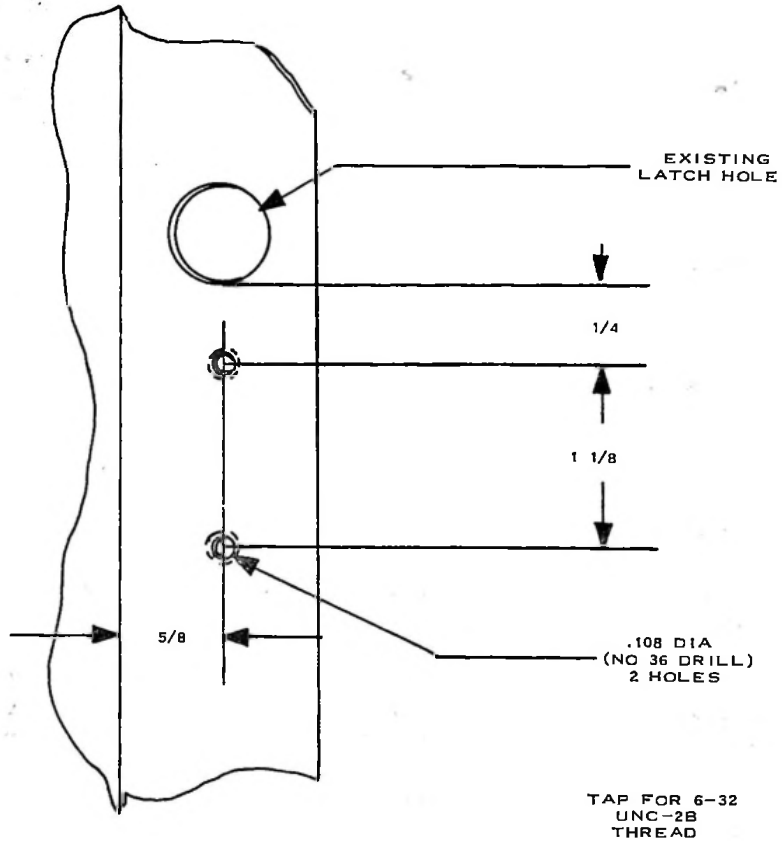

Figure 1. Installation of Striker Plate.
- a. Locate and drill two 0.108-diameter holes (No. 36 drill) and tap for 6-32 screws in the cabinet as shown in figure 1.
- b. Install magnetic striker plate on the cabinet as shown in figure 1. Use 6-32 X 1/4 PFH screw, 330-2295-000. Be sure the screw head is below the surface of the mounting plate.